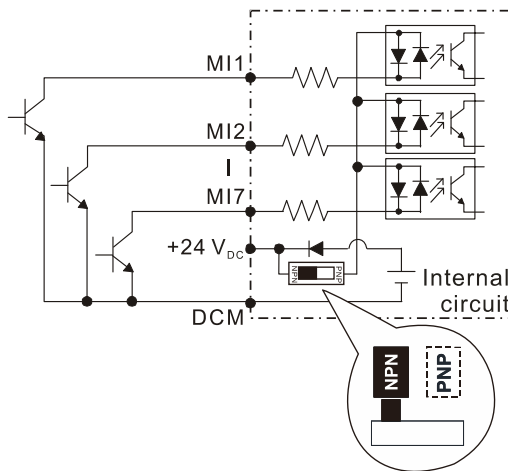

Figure 6-2
- When the photo coupler uses the internal power supply, the switch connection for Sink and Source modes shows as Figure 6-2 and Figure 6-3: MI-DCM: Sink mode; MI-+24 V_{DC}: Source mode.